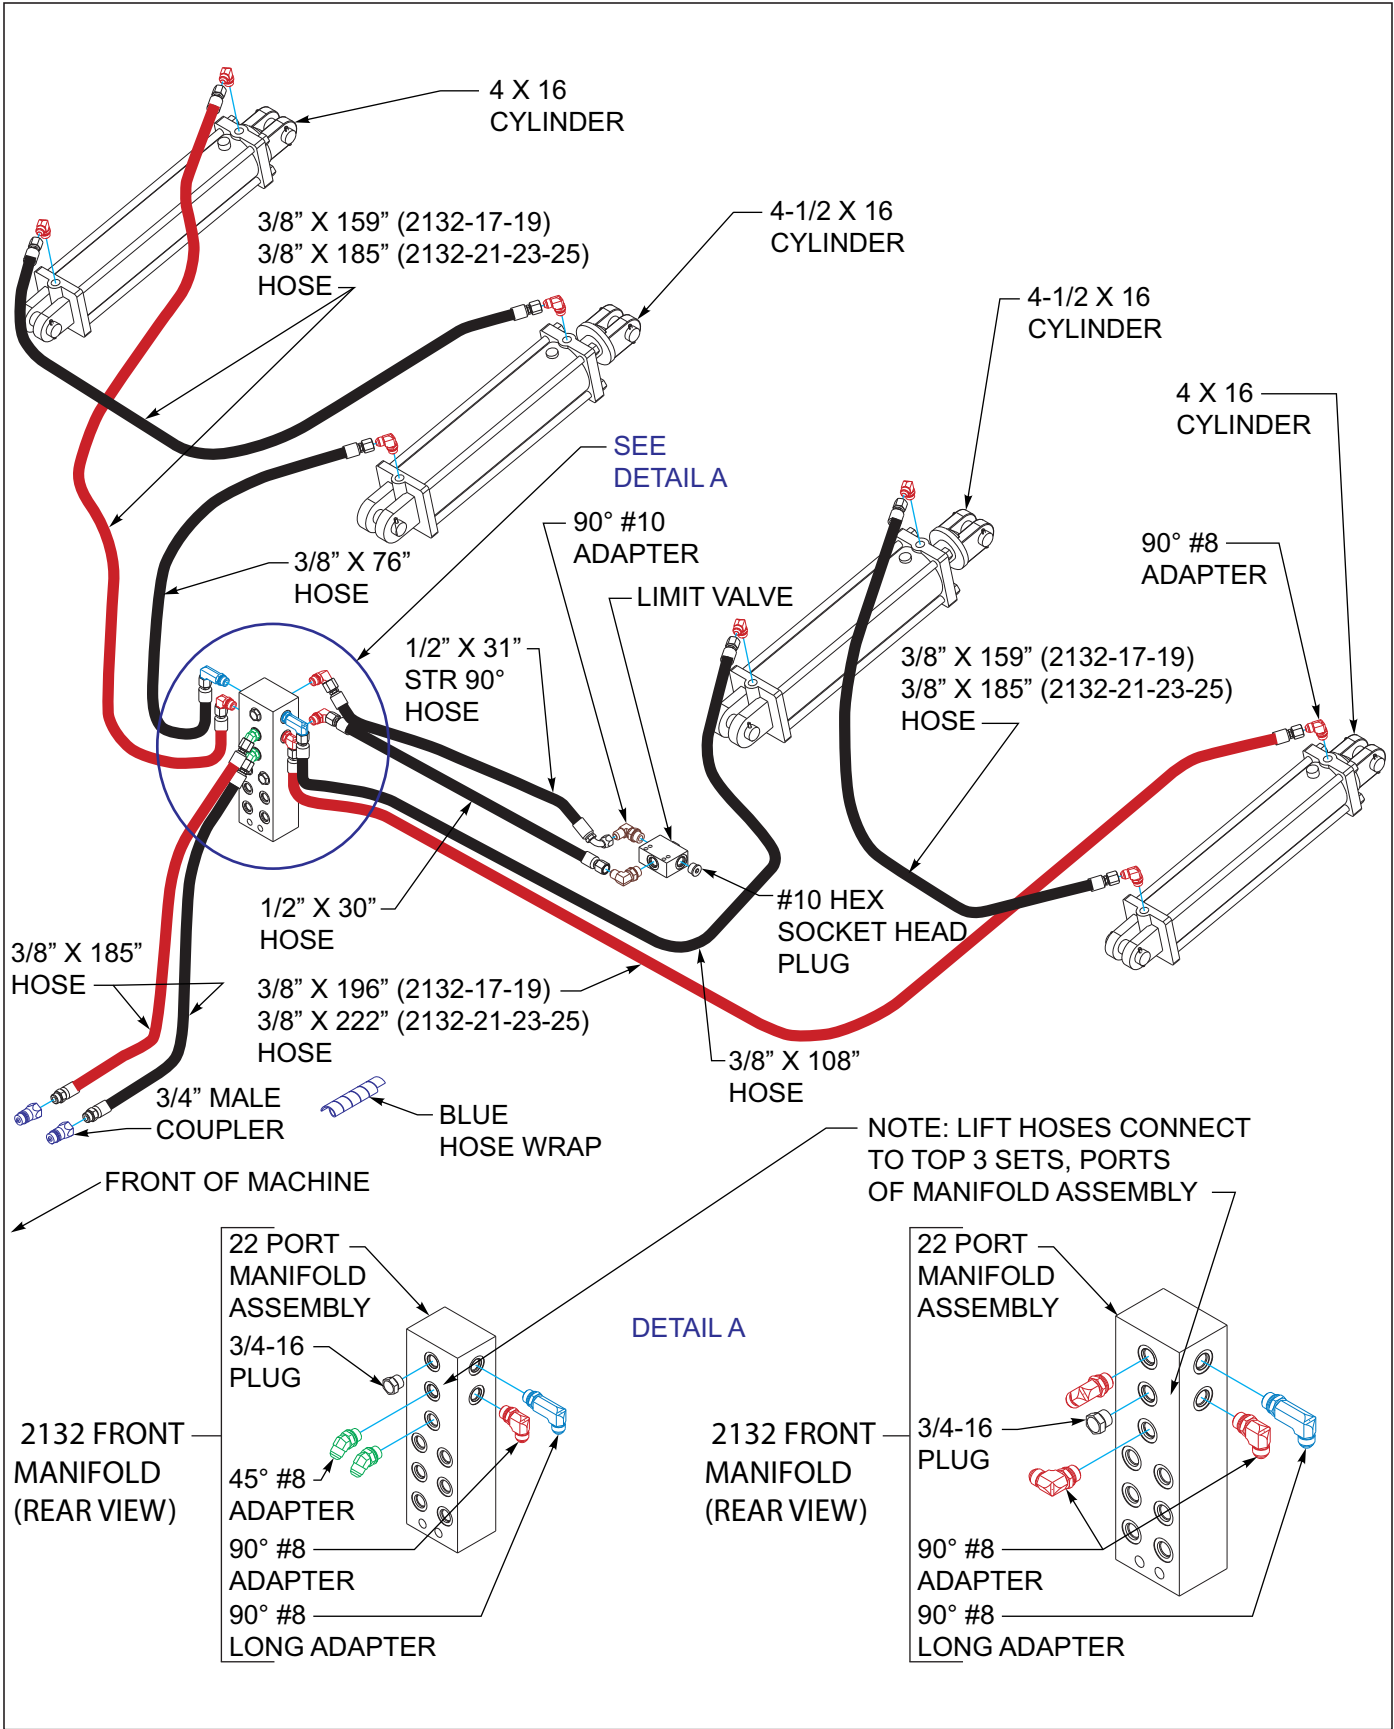
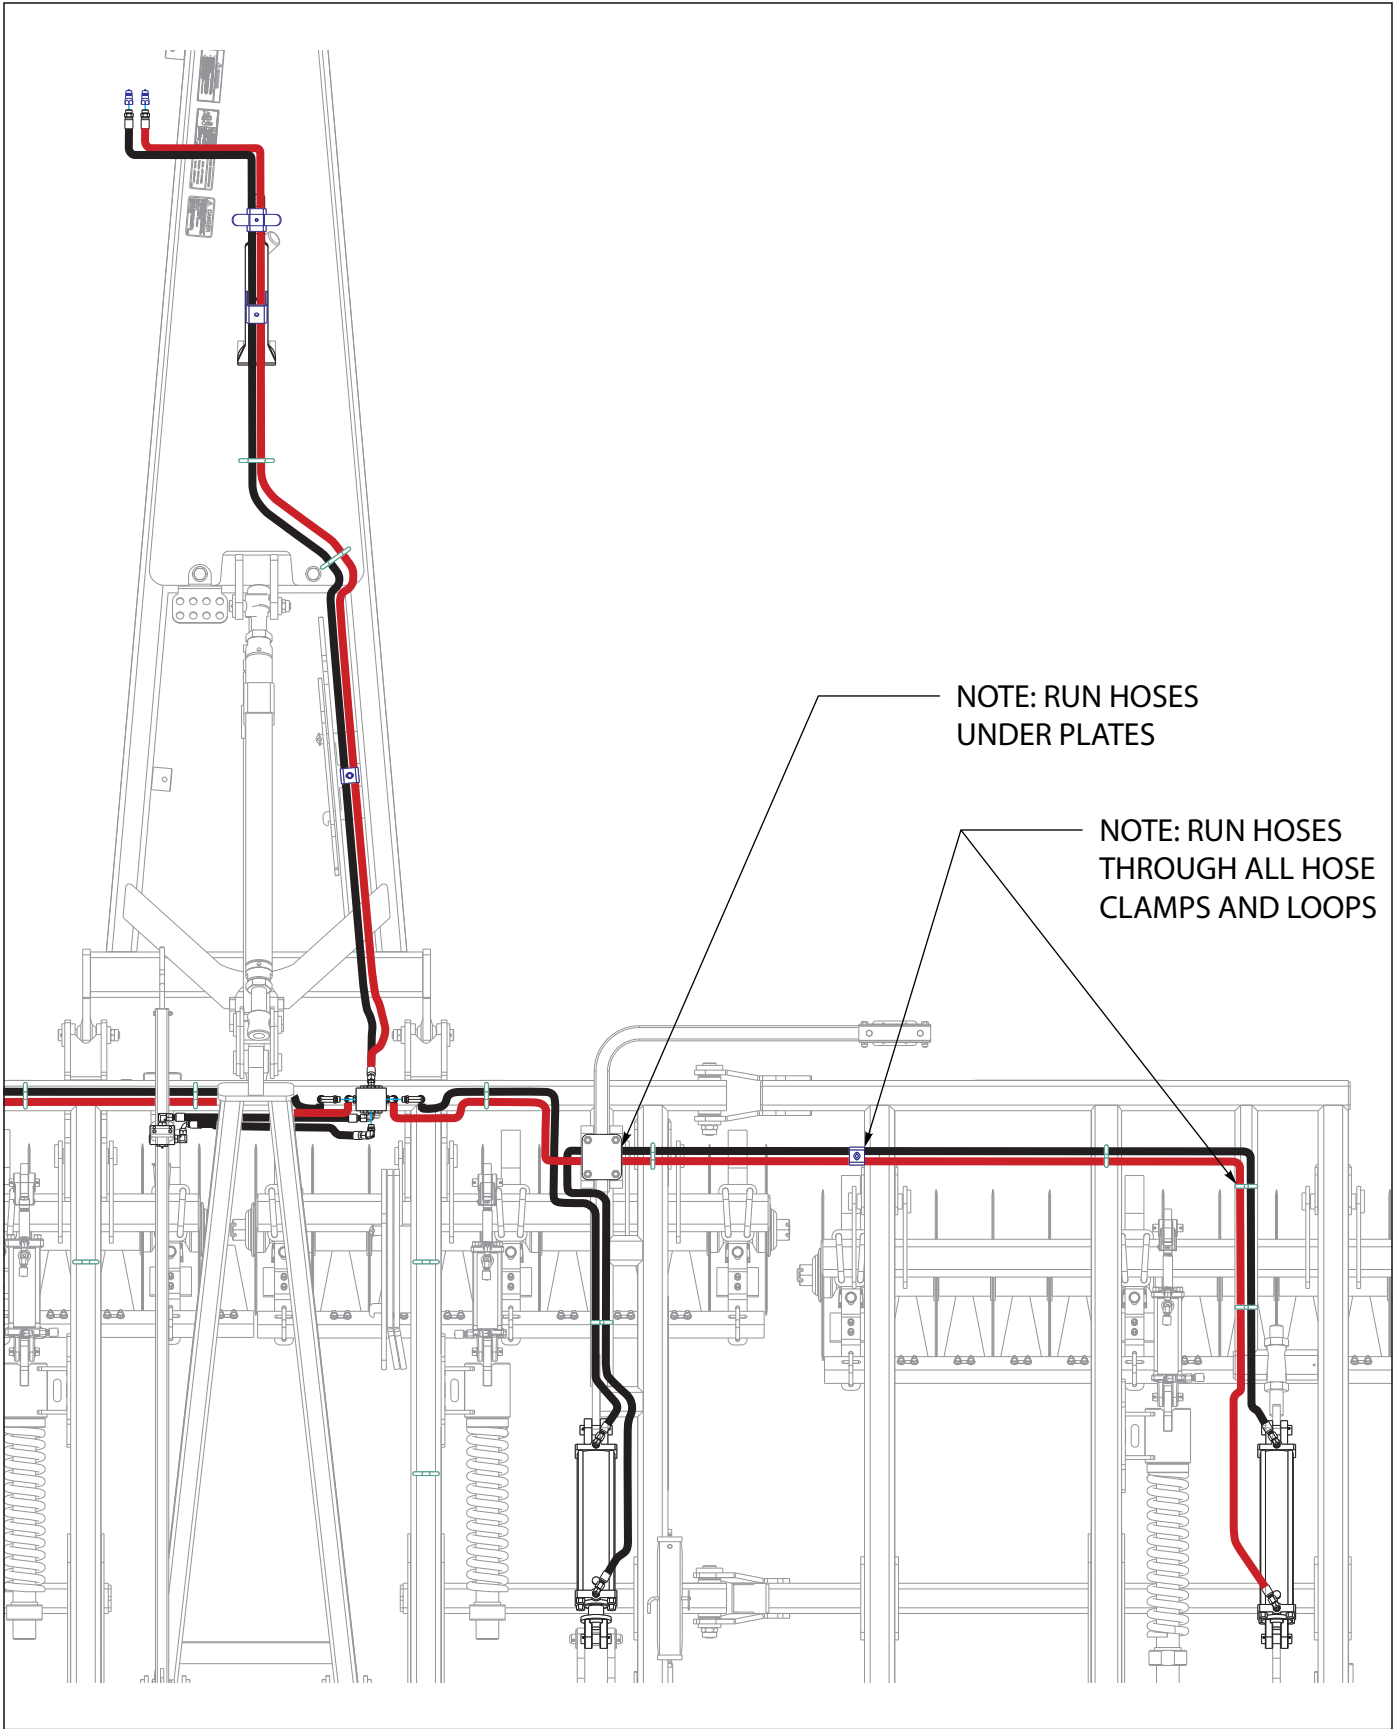

Figure 3-10: Lift Hydraulic Installation
Figure 3-12: Lift Hydraulic Layout RH
1. *See Figures 3-10* through *See Figures 3-12* for lift hydraulic installation.